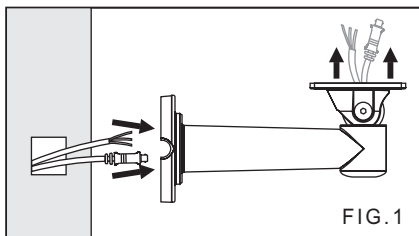
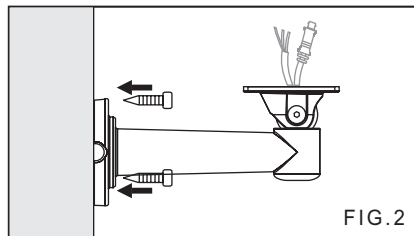

FIG.1
FIG.2
1. Take out the bracket from the box first. Put the power cable and video cable through the bracket and then fix it to the wall (FIG.1 & FIG.2).